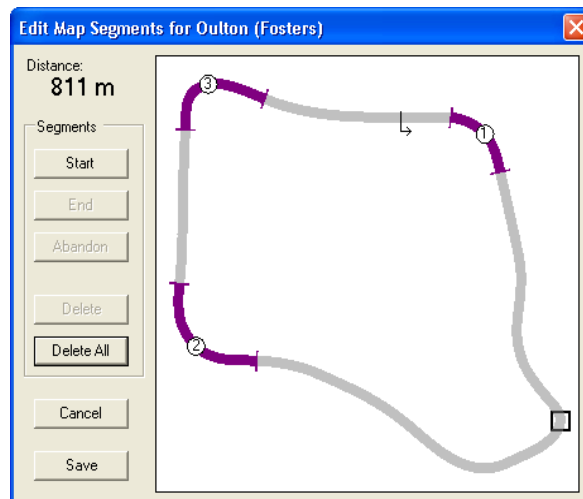

Figure 28 - Edit Map Segments Dialog (Segment Deleted)
4. Click **Delete**. The segment is removed from the map (see Figure 28).